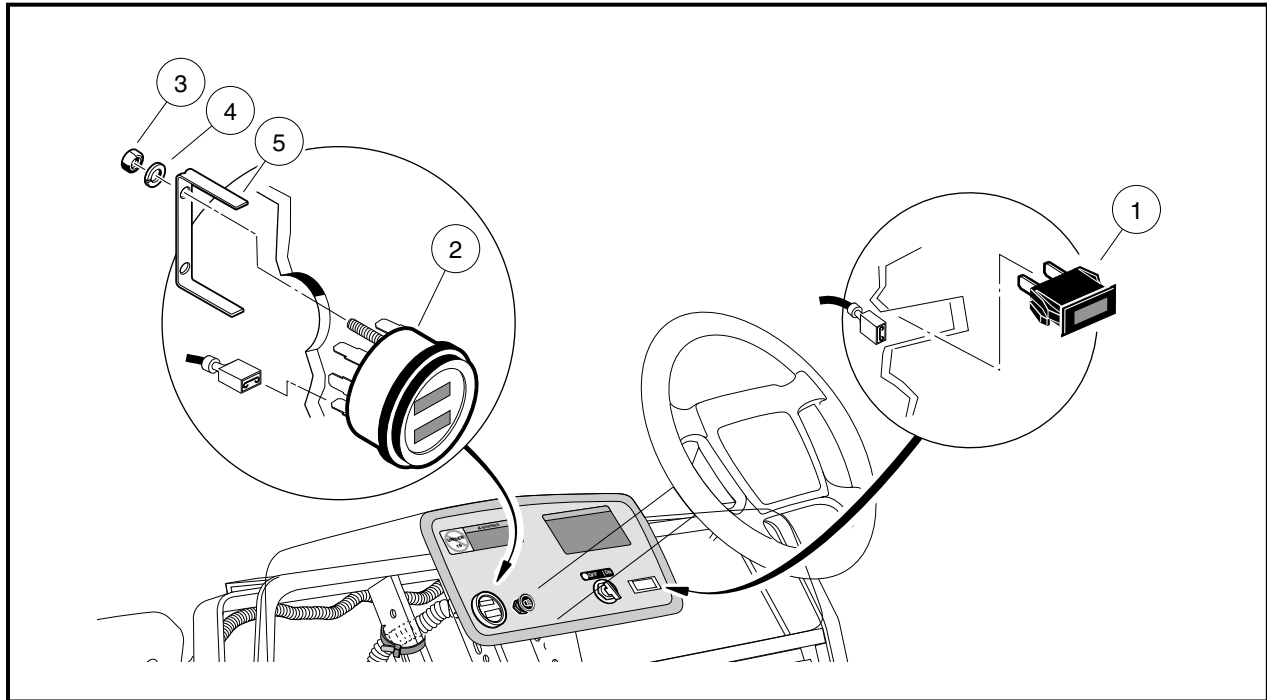

Figure 12-25 Fuel Gauge/Hour Meter and Oil Warning Light Installation
5. Disconnect the wires from the oil warning light (1) (**Figure 12-25, Page 12-25**). Do not allow wires to touch.
1. Push a new unit into hole in dash until plastic tabs engage dash (**Figure 12-25, Page 12-25**).
5. Disconnect the wires from the fuel gauge/hour meter (2) (**Figure 12-25, Page 12-25**). Do not allow wires to touch.
6. Remove the two hex nuts (3) and lock washers (4) from the threaded studs on the back of the gauge. Remove the mounting bracket (5) from the back side of the gauge/meter and remove the gauge/meter from the dash.
1. Install a new gauge/meter into hole in dash until flange seats against dash (**Figure 12-25, Page 12-25**).